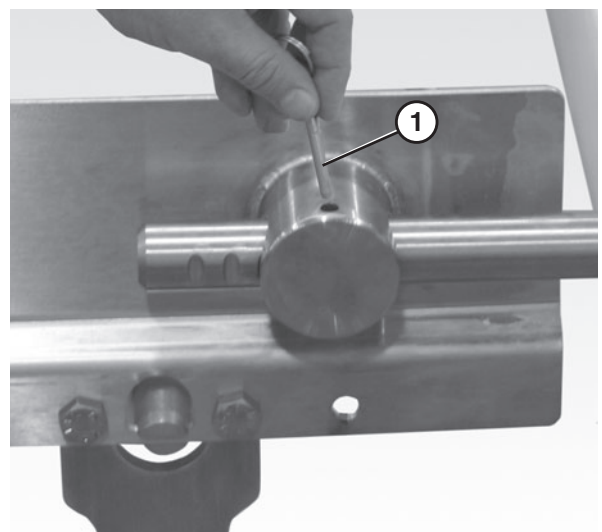

Figure 76
- Remove the pull pins (**Figure 76, item 1**).